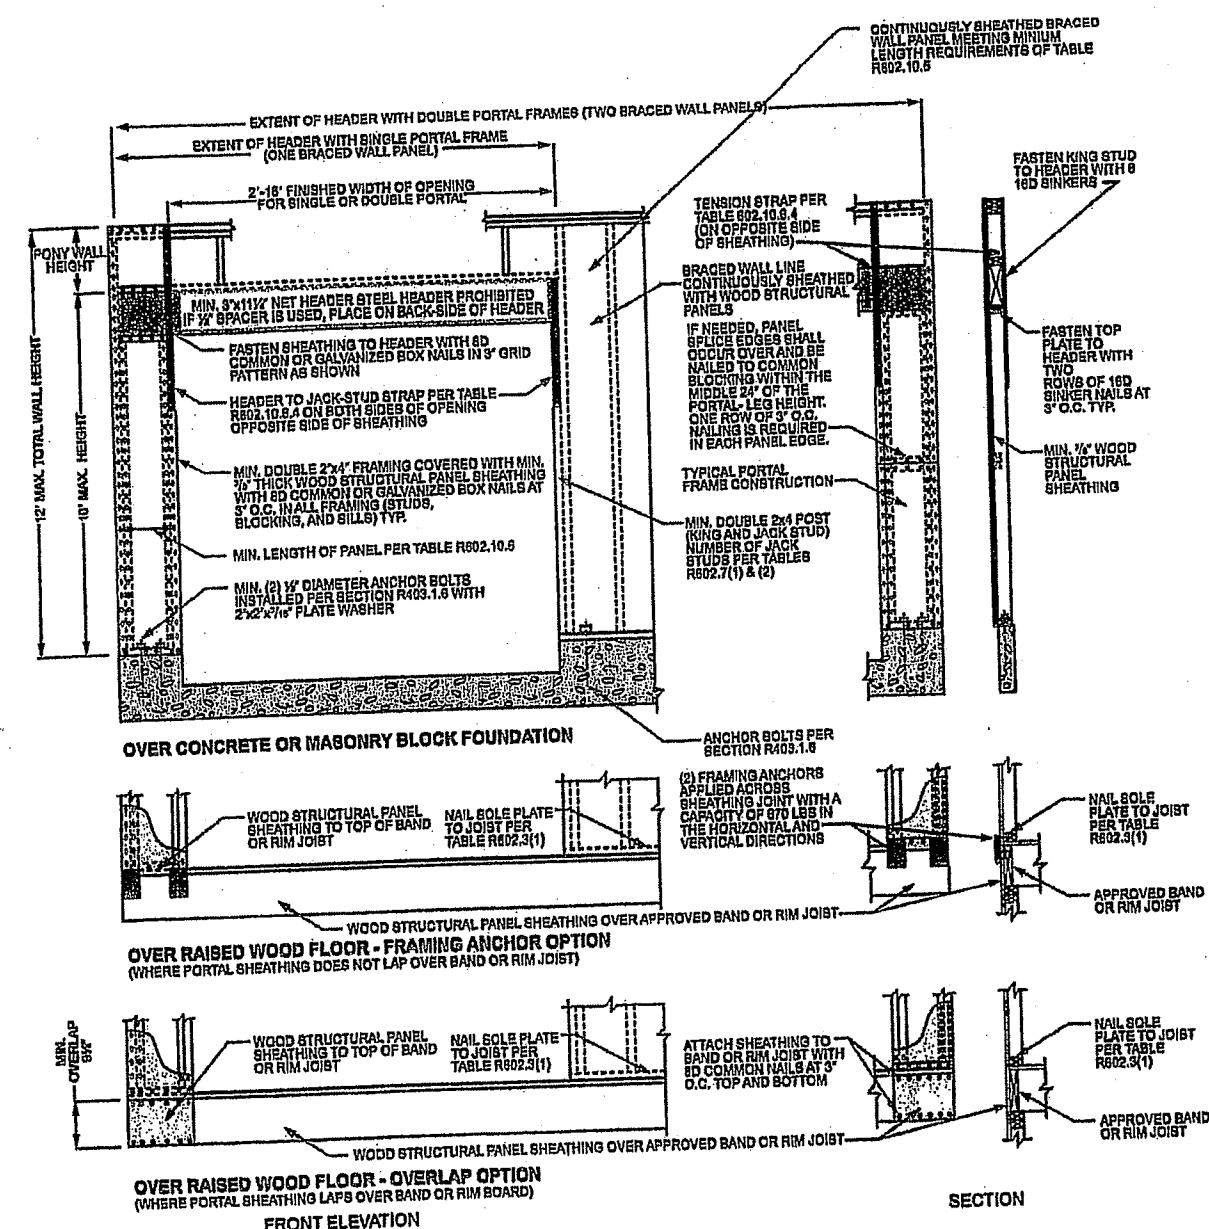

FIGURE R602.10.6.4
c. Maximum header height for PFH is 10 feet in accordance with Figure R602.10.6.2, but wall height shall be permitted to be increased to 12 feet with pony wall.
d. Maximum header height for PFH is 10 feet in accordance with Figure R602.10.6.2, but wall height shall be permitted to be increased to 12 feet with pony wall.
e. Maximum header height for CS-PF is 10 feet in accordance with Figure R602.10.6.4, but wall height shall be permitted to be increased to 12 feet with pony wall.